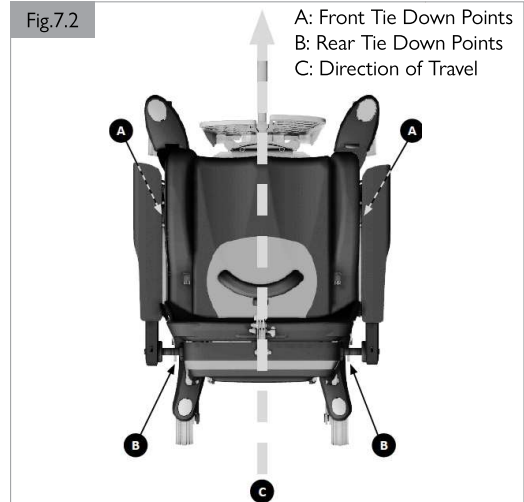

Fig.7.2
Secured with a 4-point strap restraint system (2 in the front, 2 in the back (Fig.7.2), that conforms to:
1. The wheelchair can only be secured by using the tie-down points on the wheelchair's frame (Fig. 7.2 - 7.6)